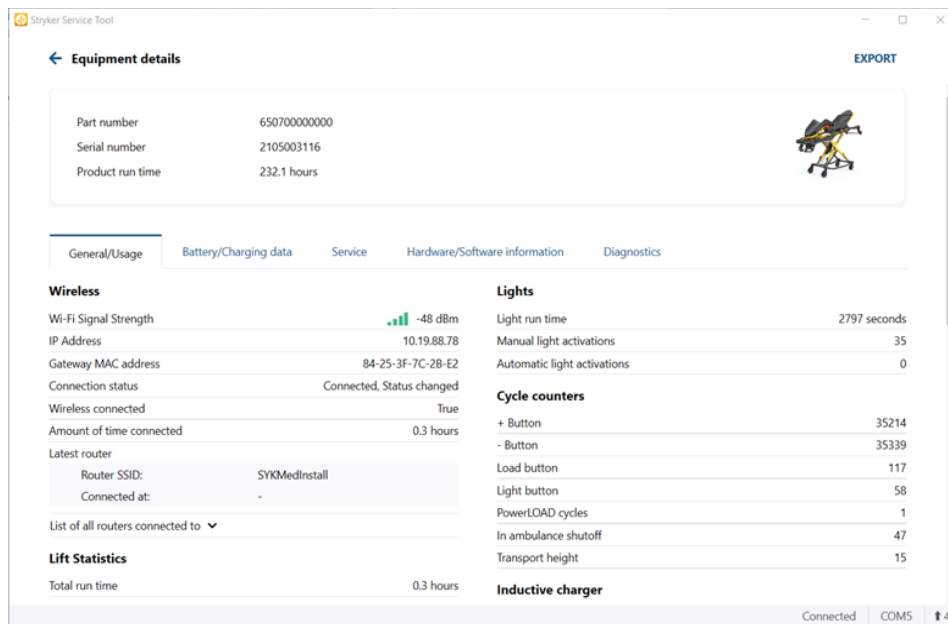

Figure 6 – Equipment Details main screen
6. Use the tabs in the Equipment Details main screen to access different data from the cot (Figure 6).